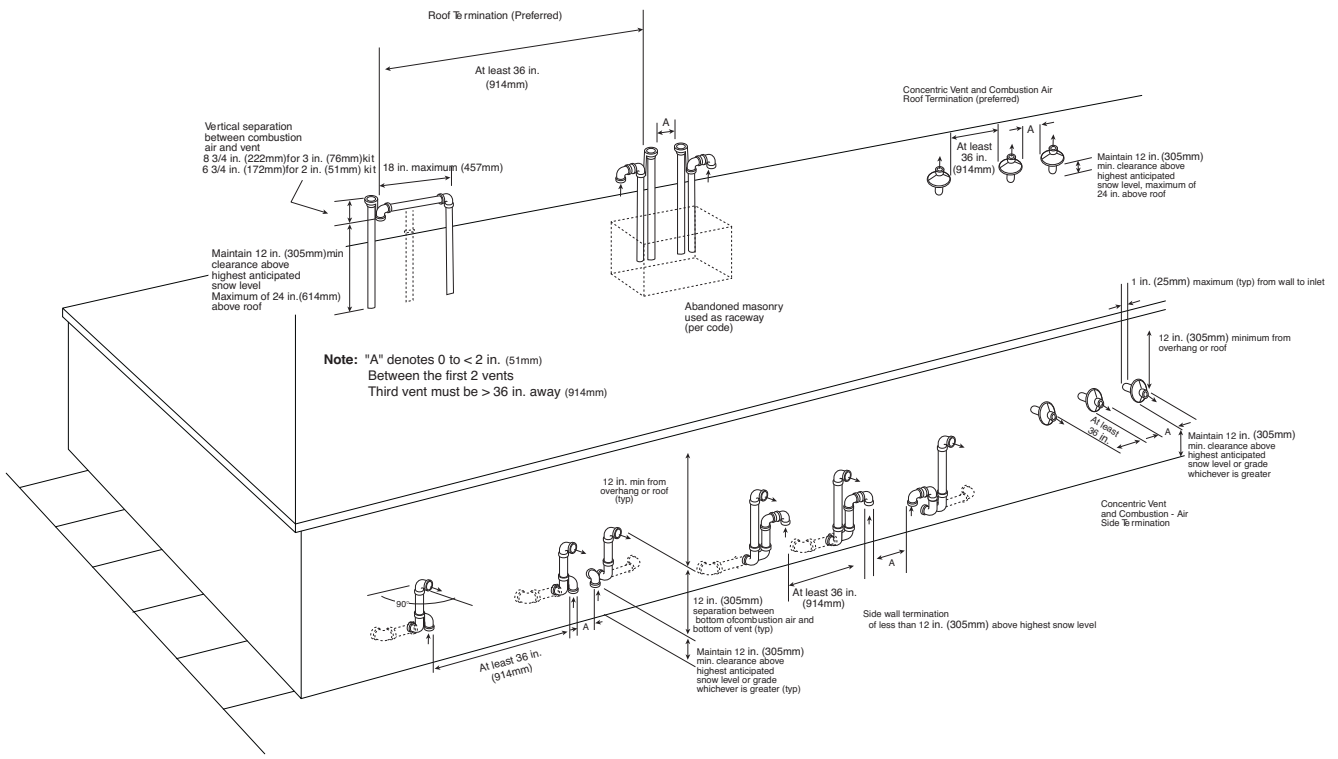
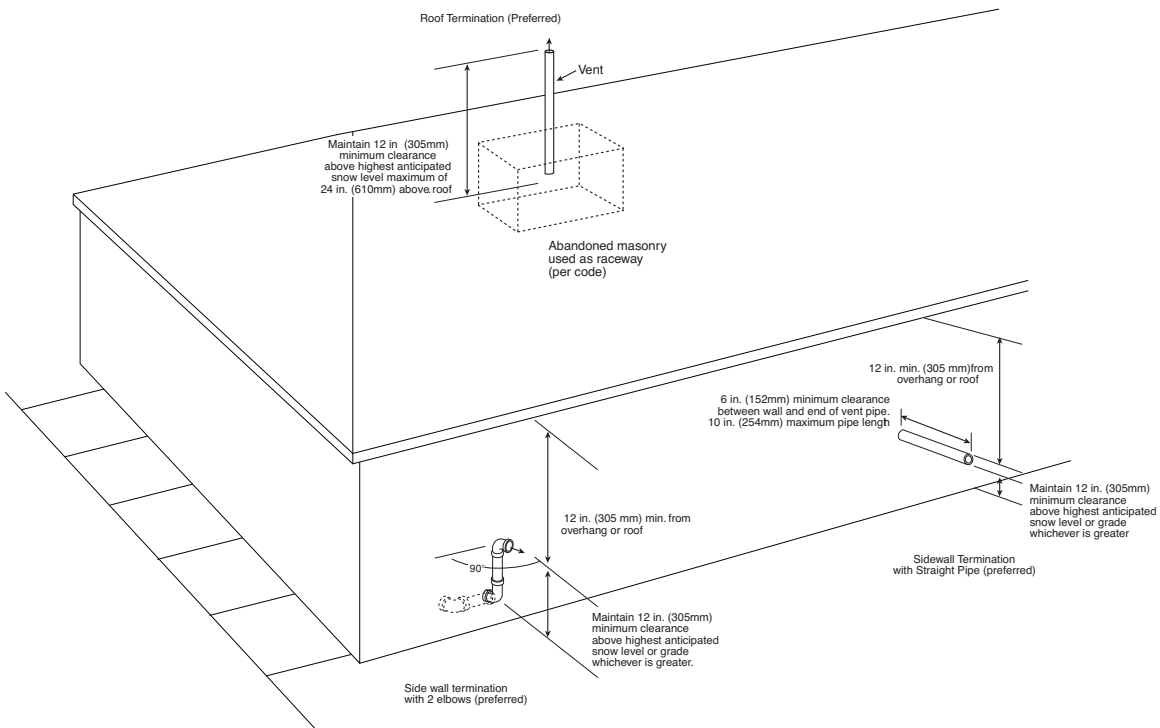

Fig. 43 - Combustion Air and Vent Pipe Termination for Direct Vent (2-pipe) System
Fig. 44 - Vent Pipe Termination for Ventilated Combustion Air System
NOTE: Do not count elbows or pipe sections in terminations or within furnace (all elbows shown in Fig. 43 and Fig. 44 are not be counted).
Combustion-air (direct vent/2-pipe system only) and vent pipe must terminate outside structure, either through sidewall or roof. For vent termination clearance, refer to Table 8 for Direct Vent/2-Pipe system and Table 9 for Non-direct Vent/1-Pipe system. For exterior piping arrangements, refer to Fig. 43 for Direct Vent/2-Pipe system and Fig. 44 for Non-Direct/1-Pipe system.
Sidewall combustion air pipe termination (direct vent/2-pipe system only) and vent pipe termination may be extended beyond area shown in Fig. 43 or in Fig. 44 per application in outside ambient by insulating pipe as indicated in Table 10.
Roof terminations—Locate assembly through roof to appropriate height as shown in Fig. 43.
Sidewall terminations—Locate assembly through sidewall with rain shield positioned no more than 1-in. (25 mm) from wall as shown in Fig. 43.
5. Check required dimensions as shown in Fig. 43.
Roof terminations-Loosely install pipe coupling on properly cut vent pipe. Coupling must be positioned so bracket will mount as shown in Fig. 43.
For applications using combustion-air pipe option, indicated by dashed lines in Fig. 43, install 90° street elbow into 90° elbow, making a U-fitting. A 180° U-fitting may be used.
Sidewall terminations-Install bracket as shown in Fig. 43. For applications using vent pipe option indicated by dashed lines in Fig. 43, rotate vent elbow 90° from position shown in Fig. 43.
4. Check required dimensions as shown in Fig. 43.
(Direct Vent/2-Pipe System ONLY)-When 2 or more 355AAV furnaces are vented near each other, 2 vent terminations may be installed as shown in Fig. 43, but next vent termination must be at least 36 in. (914 mm) away from first 2 terminations. It is important that vent terminations be made as shown in Fig. 43 to avoid recirculation of flue gases.